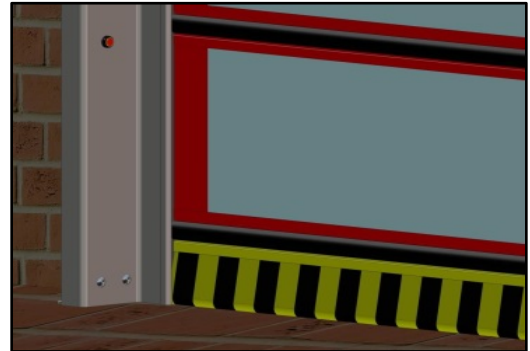

**Figure 37**
4. Lower the curtain panel until the bottom edge is 2 inches above the photo eye sensors. (See Figure 37).